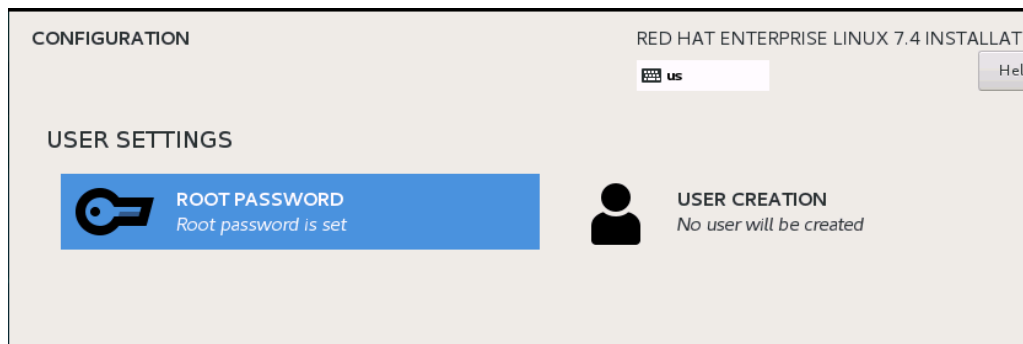

Figure 10-10. Red Hat Enterprise Linux 7.4 Configuration
8. In the Configuration window (Figure 10-10), select the language to use during the installation process, and then click **Continue**.